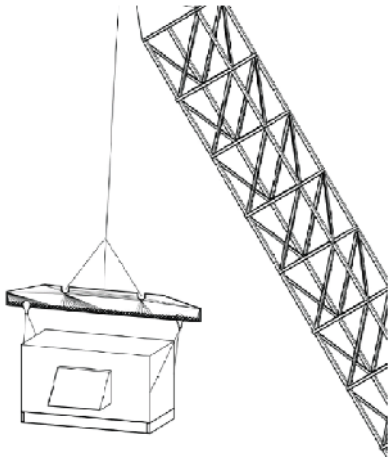

Figure 2 Lifting with Spreader Bars
3. Spreader bars are required to prevent damage to the cabinet and protruding components. To distribute the load properly, the tension in each line must also be adjusted. See Fig. 2.